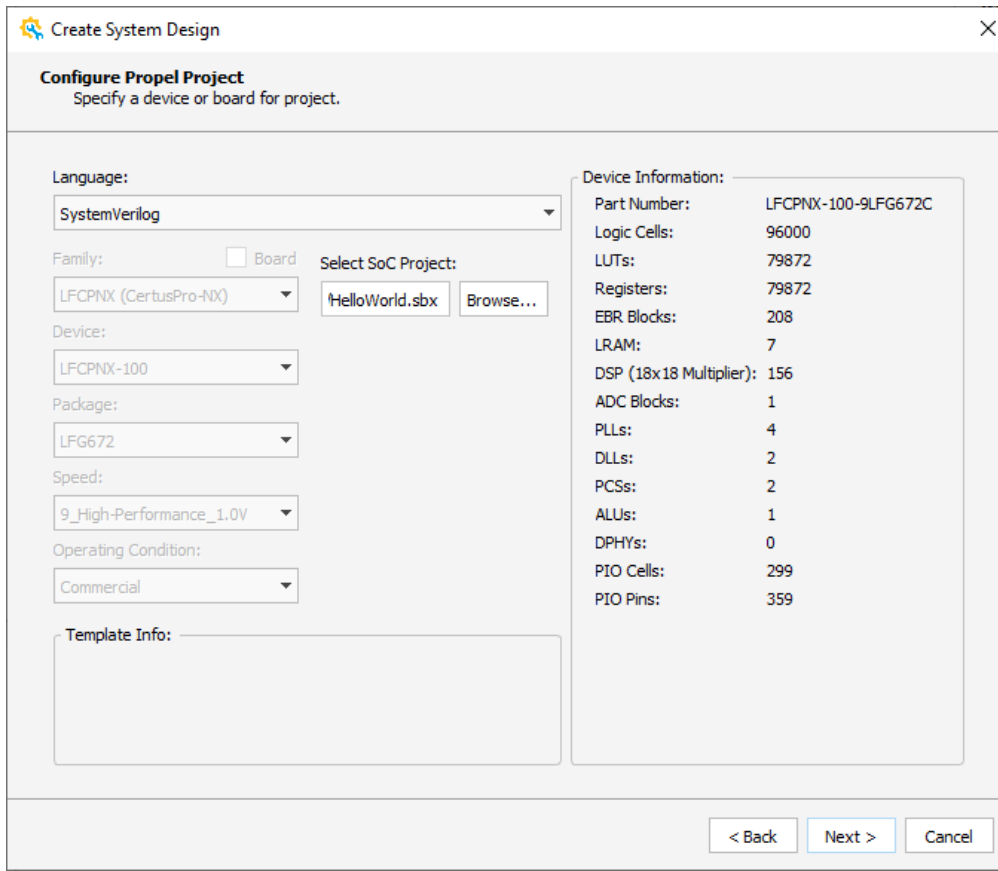

Figure 2.85. Create System Design – Propel Project Configure Wizard
5. Click **Next**. The Propel Project Configure wizard is shown as Figure 2.85.